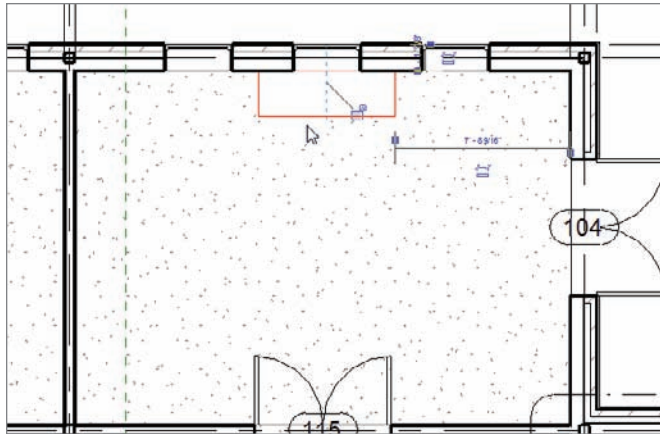

FIGURE 9.52 Placing the credenza desk into the first office
2. Zoom into the northeast corner office, as shown in Figure 9.52.
7. Place the credenza desk into the room, as shown near the top of Figure 9.52.